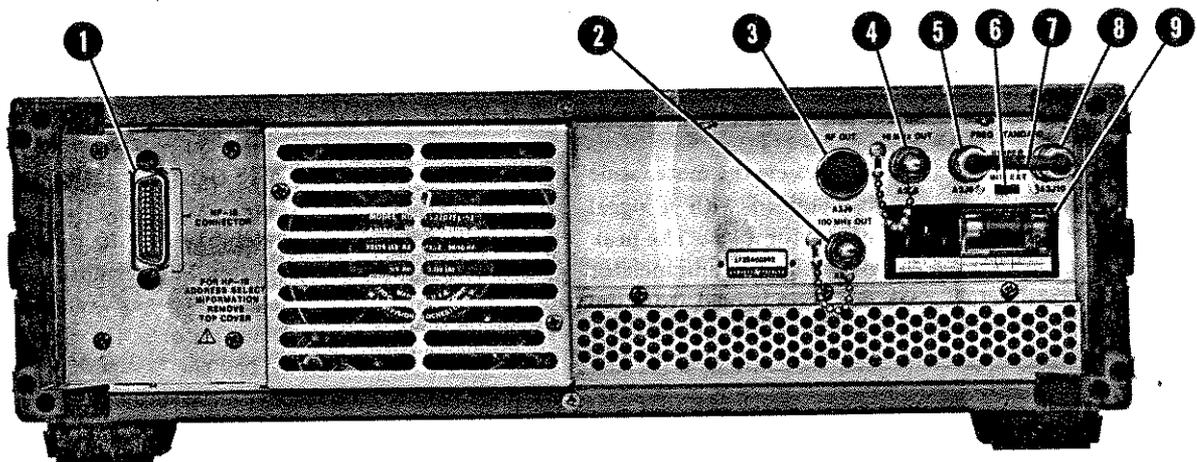

Figure 3-2. Rear Panel Connectors, Switches, and Displays
3-7. The only maintenance the operator should normally perform is the replacement of the primary power fuse (F1) located in the Line Power Module Assembly ⑨ (A3A11) shown in Figure 3-2 and the mechanical zero adjustment ⑫ of the meter shown in Figure 3-1. For instructions on how to change the fuse, refer to Section II, Line Voltage Selection.
- INTERNAL REF OFF:** when lit, indicates when the rear panel INT-EXT switch **27** (see Figure 3-2) is in the EXT position.
- 11 PRESET key (3 GHz):** sets frequency to 3 GHz and extinguishes the Frequency Resolution Light Bars **8**.
1. Check that the LINE switch **12** is in STANDBY and remove the power cable from the Line Power Module **9** (see Figure 3-2).
2. Check that Line Power Module **9** (see Figure 3-2) is set to the nominal line voltage to be used and that the fuse is the correct value and type.
1. On the rear panel (see Figure 3-2), remove Jumper **7** (A3W3) from the FREQ STANDARD EXT connector **8** (A3J10), and set the FREQ STANDARD INT/EXT switch **6** to EXT.